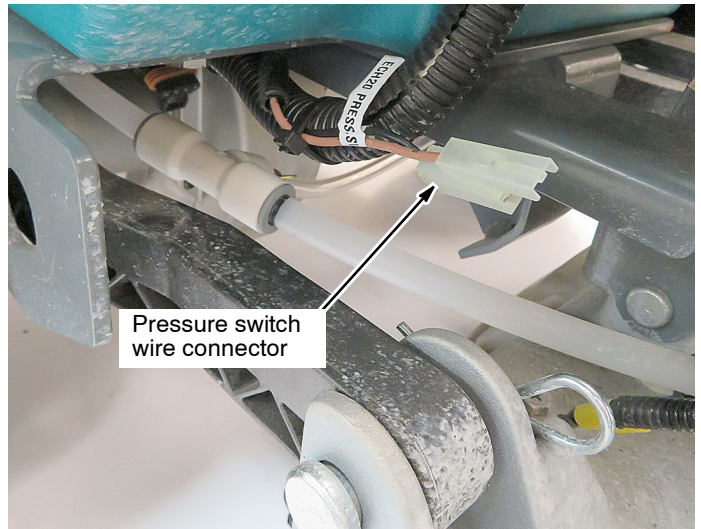

Fig. 17
16. Locate the factory installed pressure switch wire connector cable-tied to the machine harness (Figure 17).